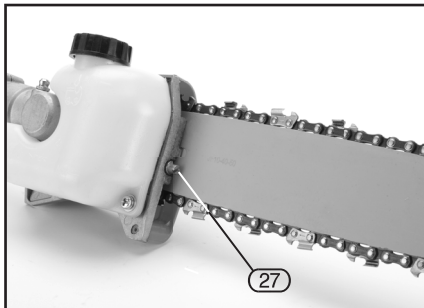

FIG. 5
- Turn the chain tension adjustment screw (27) (Fig.5) clockwise until the chain pulls tight on the bottom of the bar.